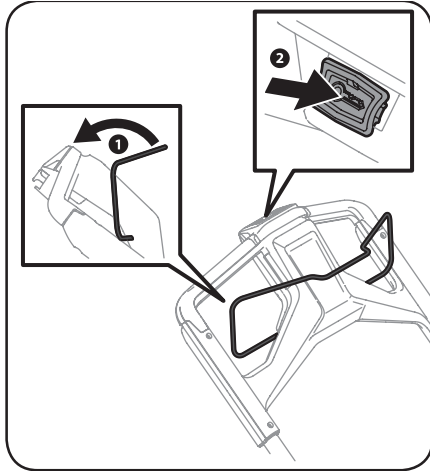

Figure 3-2
1. Standing behind the mower, pull the blade control back against the upper handle. See Figure 3-2.